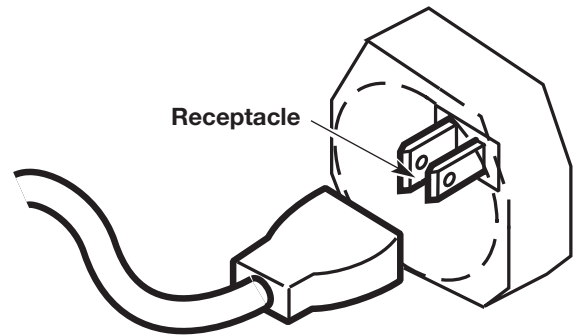

Fig. 10
2. Plug the female end of the electrical cord into the receptacle at the back of the unit (Fig. 10).